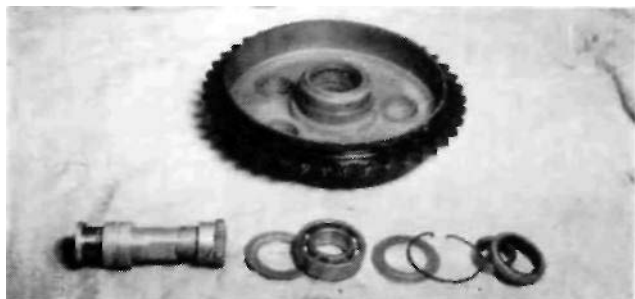

FIG. 78
**To remove the bearing ring.** Press inwards the steel cup washer (5) to permit extraction of the circlip (11). take out the cup washer, oil seal and spacer (6). Drift out the bearing ring with a length of steel tubing.
**Brake drum bearing (Fig. 78).** With the brake drum away from the frame, to dismantle: